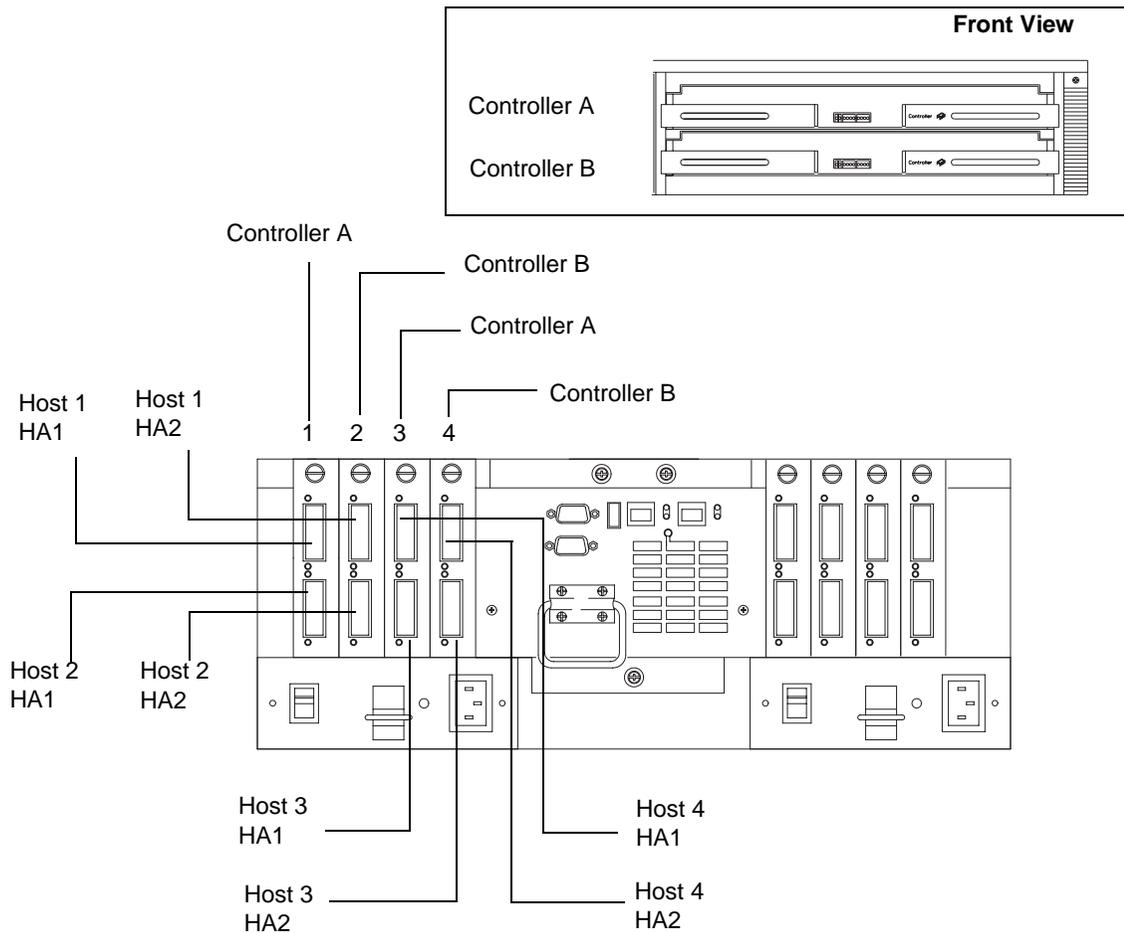

Figure 23. Connecting hosts directly to the controller
- 1 Connect the first host (Host 1) to the controller unit, as shown in Figure 23 on page 36.
- 2 Connect a second host (Host 2) to the controller unit, as shown in Figure 23 on page 36.
- 3 Connect a third host (Host 3) to the controller unit, as shown in Figure 23 on page 36.
- 4 Connect a fourth host (Host 4) to the controller unit, as shown in Figure 23 on page 36.